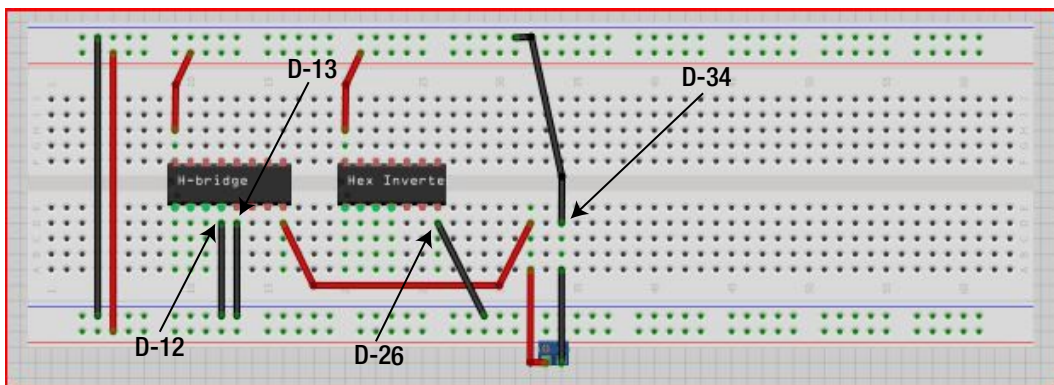

Figure 15-7. Attach ground to the circuit
11. Connect the black wire of the two-position terminal block to the ground rail on the breadboard by inserting a jumper wire into D-34 and its other end into a free hole nearest a blue line on the breadboard. Figure 15-7 illustrates this process.